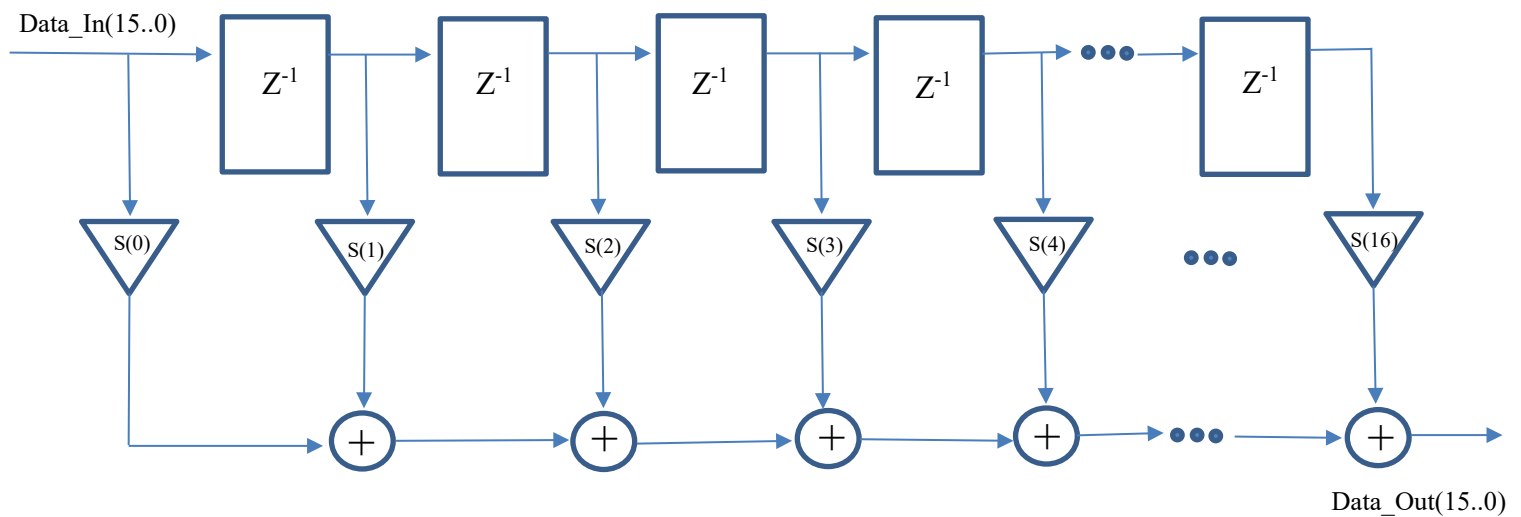

Figure 1: Schematic for simple averaging FIR filter
Filtering is a process of adjusting a signal – for example, removing noise. Noise in a sound waveform is represented by small, but frequent changes to the amplitude of the signal. A simple logic circuit that achieves the task of noise-filtering is an averaging Finite Impulse Response (FIR) filter. A schematic diagram of the filters for this lab is given in figure 1.
6. Choose Tools > Netlist Viewers > RTL Viewer and verify the RTL schematic looks similar to figure 1 on page 1.